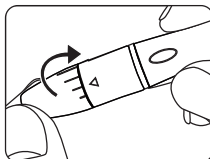

Figure 7
STEP 1: Remove the cap of the lancing device by twisting it off. *See Figure 7.*